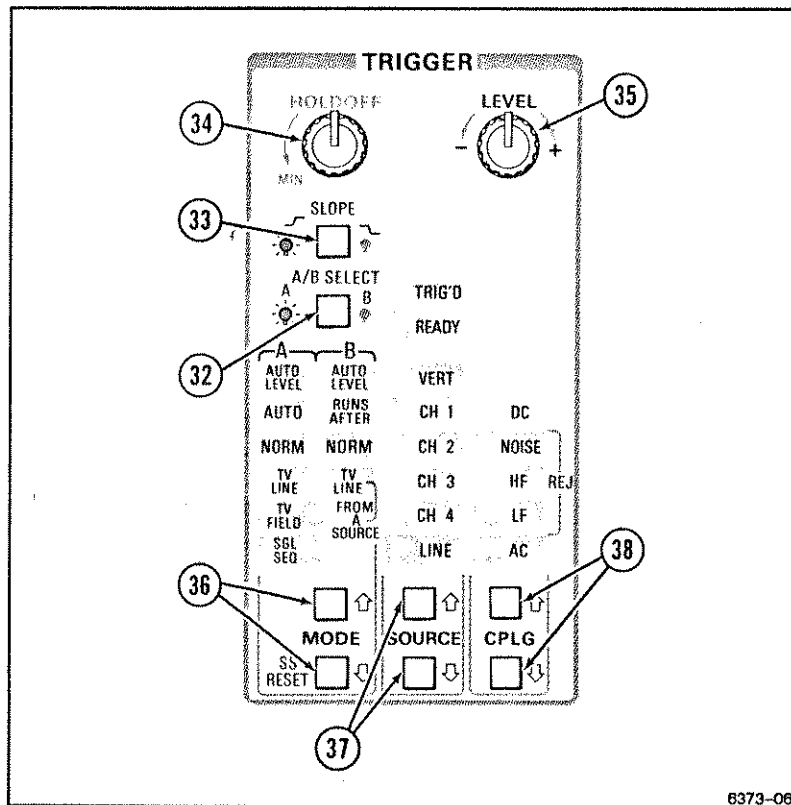

Figure 2-5. Trigger controls and indicators.
Refer to Figure 2-5 for location of items 32 through 38.